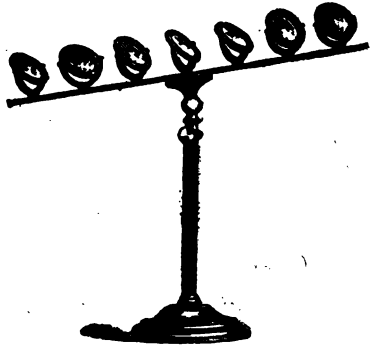

FIG. 116
**142. Color Mixing.** Figure 116 represents a piece of apparatus for recombining the colors of the spectrum. It consists of seven mirrors fitted on small rotating stands. When placed at the proper position and distance from the prism of Section 134, each mirror will receive one of the seven spectrum colors. By turning the mirrors, these different color waves may be thrown together or separately upon some spot on the white screen. If all are thrown at once we get a white spot formed by the recombined spectrum colors. Red and green combined look yellow. Blue and yellow make white.